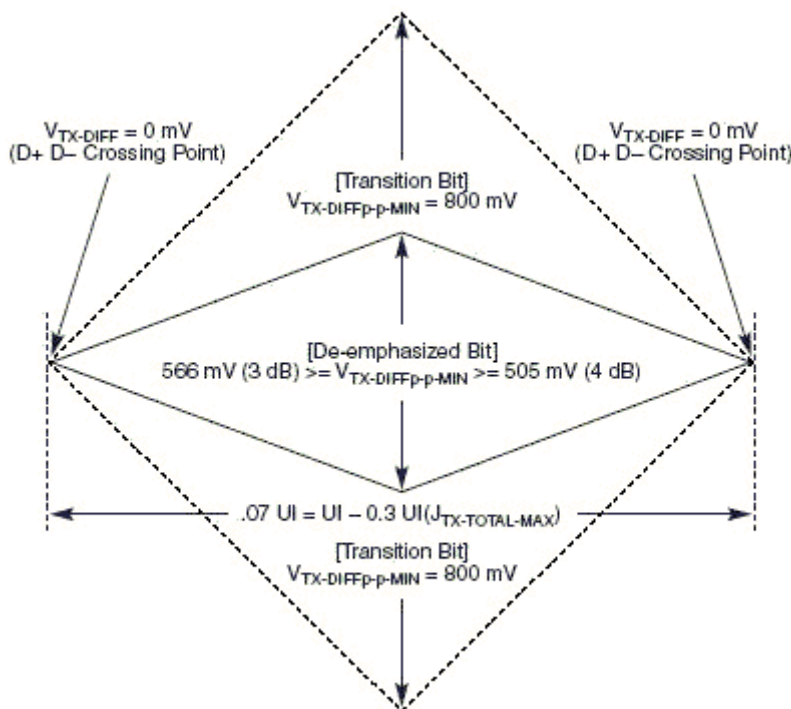
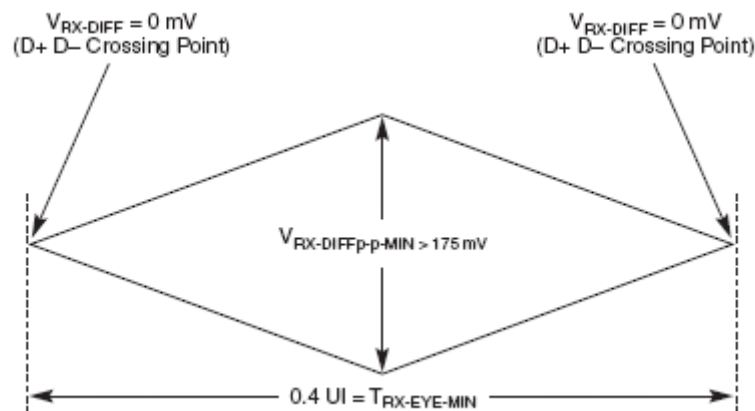
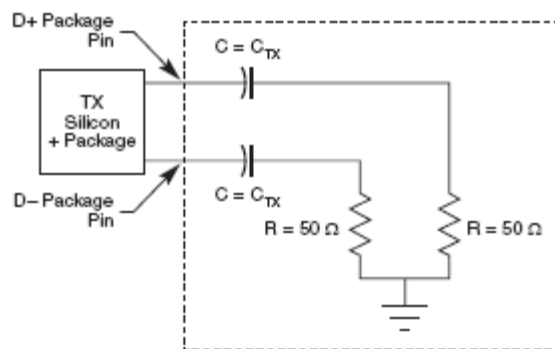

Figure 56. Minimum Transmitter Timing and Voltage Output Compliance Specifications
Figure 57. Minimum Receiver Eye Timing and Voltage Compliance Specification
Figure 58. Compliance Test/Measurement Load
- 2.) Specified at the measurement point into a timing and voltage compliance test load as shown in Figure 58 and measured over any 250 consecutive TX UIs. (Also refer to the transmitter compliance eye diagram shown in Figure 56.)
- 4.) The transmitter input impedance shall result in a differential return loss greater than or equal to 12 dB and a common mode return loss greater than or equal to 6 dB over a frequency range of 50 MHz to 1.25 GHz. This input impedance requirement applies to all valid input levels. The reference impedance for return loss measurements is 50  $\Omega$  to ground for both the D+ and D- line (that is, as measured by a vector network analyzer with 50- $\Omega$  probes—see Figure 58). Note that the series capacitors  $C_{\text{TX}}$  is optional for the return loss measurement.
- 5.) Measured between 20%–80% at transmitter package pins into a test load as shown in Figure 58 for both  $V_{\text{TX-D+}}$  and  $V_{\text{TX-D-}}$ .
The TX eye diagram in Figure 56 is specified using the passive compliance/test measurement load (see Figure 58) in place of any real PCI Express interconnect +RX component.
- 2.) Specified at the measurement point and measured over any 250 consecutive UIs. The test load in Figure 58 should be used as the RX device when taking measurements (also refer to the receiver compliance eye diagram shown in Figure 57). If the clocks to the RX and TX are not derived from the same reference clock, the TX UI recovered from 3500 consecutive UI must be used as a reference for the eye diagram.
- 4.) The receiver input impedance shall result in a differential return loss greater than or equal to 15 dB with the D+ line biased to 300 mV and the D- line biased to -300 mV and a common mode return loss greater than or equal to 6 dB (no bias required) over a frequency range of 50 MHz to 1.25 GHz. This input impedance requirement applies to all valid input levels. The reference impedance for return loss measurements for is 50  $\Omega$  to ground for both the D+ and D- line (that is, as measured by a vector network analyzer with 50- $\Omega$  probes, see Figure 58). Note that the series capacitors CTX is optional for the return loss measurement.
The RX eye diagram in Figure 57 is specified using the passive compliance/test measurement load (see Figure 58) in place of any real PCI Express RX component.
In general, the minimum receiver eye diagram measured with the compliance/test measurement load (see Figure 58) will be larger than the minimum receiver eye diagram measured over a range of systems at the input receiver of any real PCI Express component. The degraded eye diagram at the input receiver is due to traces internal to the package as well as silicon parasitic characteristics which cause the real PCI Express component to vary in impedance from the compliance/test measurement load. The input receiver eye diagram is implementation specific and is not specified. RX component designer should provide additional margin to adequately compensate for the degraded minimum receiver eye diagram (shown in Figure 57) expected at the input receiver based on some adequate combination of system simulations and the return loss measured looking into the RX package and silicon. The RX eye diagram must be aligned in time using the jitter median to locate the center of the eye diagram.
The reference impedance for return loss measurements is  $50\ \Omega$  to ground for both the D+ and D- line (that is, as measured by a vector network analyzer with  $50\text{-}\Omega$  probes, see Figure 58). Note that the series capacitors, CTX, are optional for the return loss measurement.
The AC timing and voltage parameters must be verified at the measurement point, as specified within 0.2 inches of the package pins, into a test/measurement load shown in Figure 58.